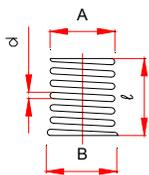

Fig. 4
- Remove suction valve springs from the outer seat. Examine springs for deformation and cracking. Test in accordance with Table-3 (Fig 4). Replace as required.
- Disassemble the discharge valve assembly by removing the lock nut and loosening the nut to allow spring removal, ensuring the locating pin is not dislodged. Examine springs for deformation and cracking. Test the springs in accordance with Table-3 (Fig 4). Replace as required.
- f) Refit springs into the recesses of the outer seat and inner seat, by winding the larger coil (Fig 4 [B]) into the recess.